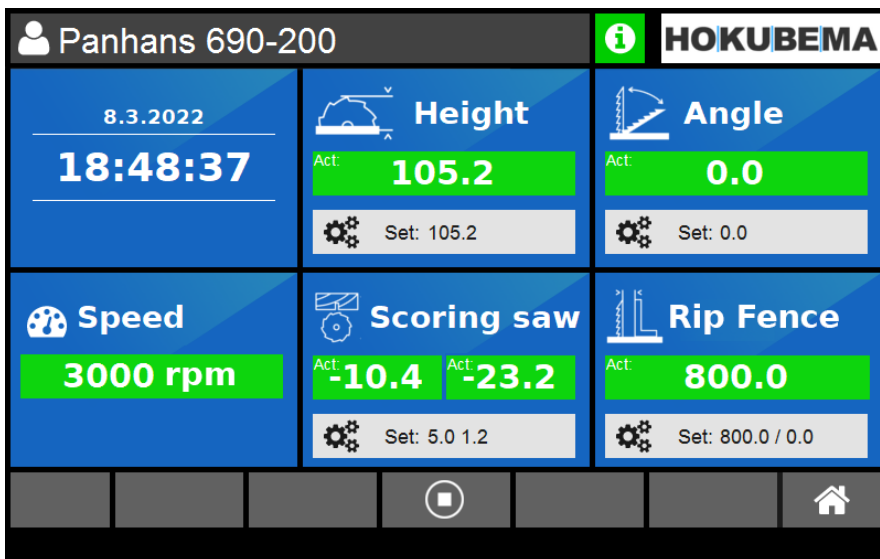

Figure 45: Machine setting areas
1. Press symbol “Height”(see ⇒ Figure 45).
1. Press symbol "Angle" (see ⇒ Figure 45)
3. In the “**Height**” window, select the button  (⇒ Figure 45) and enter the value 50.00. Then confirm this value with .